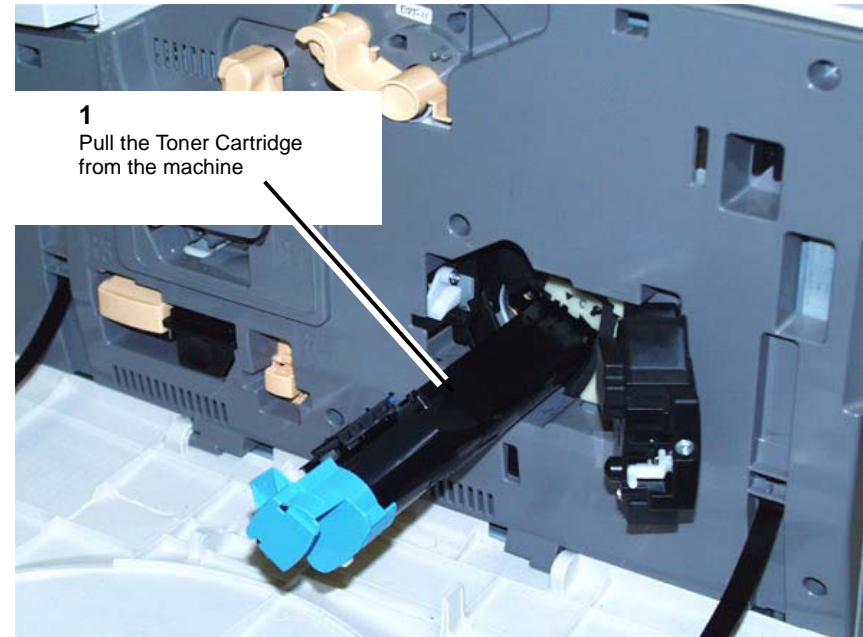

Figure 2 Removing the Toner Cartridge
7. Remove the Toner Cartridge. (Figure 2)